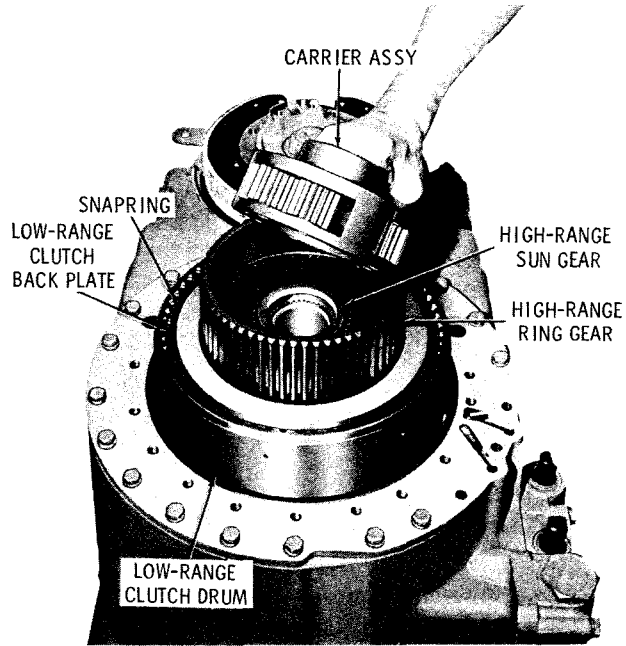

Fig. 5-21. Removing high-range planetary carrier assembly (-1 model)
(1) Lift the high-range planetary carrier assembly out of the ring gear (fig. 5-21). Refer to paragraph 6-14 for rebuild of the high-range planetary carrier assembly. Remove the sun gear and thrust washer assembly. Remove the thrust washer only if it is worn or damaged. Refer to wear limits in Section 8.
(2) Remove the internal snapring retaining low-range clutch back plate (fig. 5-21).